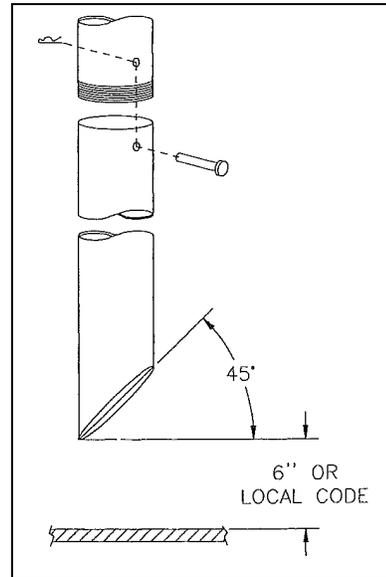

Figure 3
5. Cut tube to length so that the tube will be 6" above the bottom of the tank or per local code requirements. Tube is to be cut at 45°. (See Figure 3)